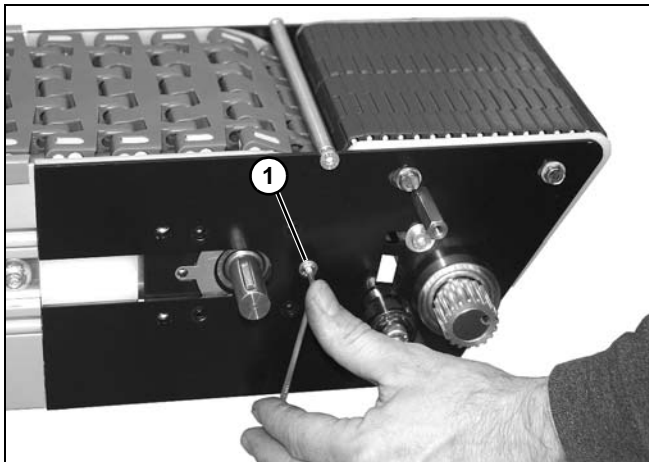

Figure 144
12. Install socket head screw (**Figure 144, item 1**) onto power transfer tail. Repeat on opposite side.